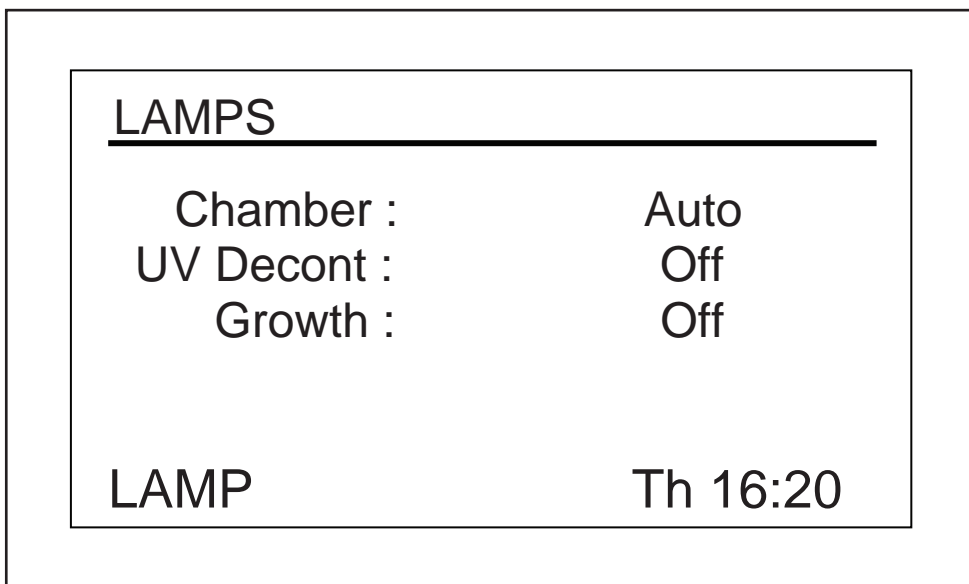

Fig. 9-6: Lamps screen
In this screen (see Fig. 9-6 on p. 53), you can turn the chamber light (*Chamber*), the optional UV germicidal (decontamination) lamp (*UV Decont*) and the optional photosynthetic growth lamps (*Growth*) on and off. *On* means the light is always on, and *Off* means the light is always off, unless you add additional programming (see *Program the shaker on p. 57*).
1. Turn the control knob to highlight the setting for the lamp of choice, then click the knob in. The current setting will flash (in the sample screen, we will use the *Chamber* light as an example (see Fig. 9-6 on p. 53)).
2. Turn the knob left or right until the desired mode setting appears (*Auto* in this example (see Fig. 9-6 on p. 53)).